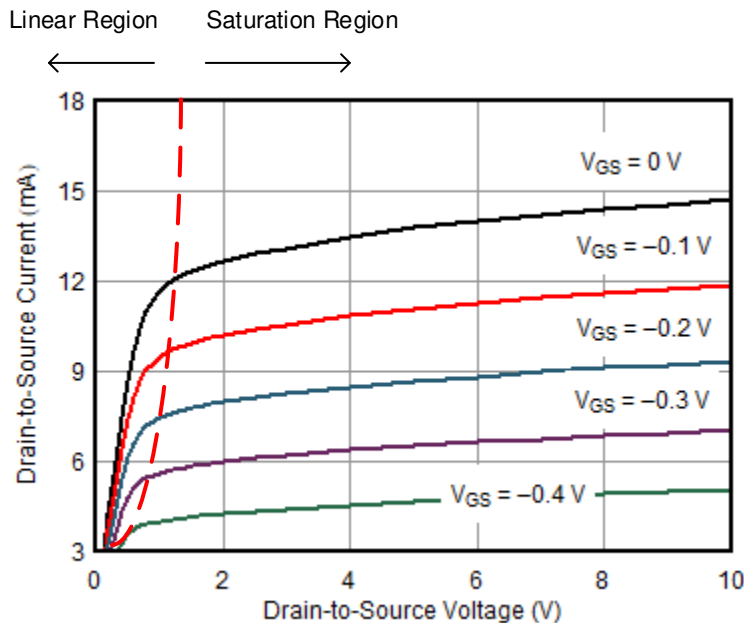

图 8-1. V_{DS} vs I_{DS}
- For $V_{GS} > V_{GSC}$: Two modes of operation can exist depending on V_{DS} . When V_{DS} is less than the linear (saturation) region threshold (see 图 8-1), the device operates in the linear region, meaning that the device behaves as a resistor connected from drain-to-source with minimal variation from any changes in V_{GS} . When V_{DS} is greater than the linear (saturation) region threshold, I_{DS} has a strong dependence on V_{GS} , where the relationship is described by the parameter g_m .